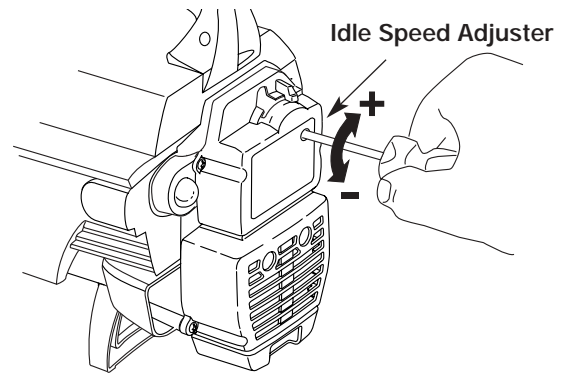

Fig. 27
The idle speed adjuster of the engine is adjustable through the Air filter/muffler cover (Fig 27).
3. Move the throttle control and let the engine idle. If the engine stops, insert a small phillips or flat blade screwdriver into the hole in the air filter/muffler cover (Fig. 27). Turn the idle speed adjuster in, clockwise, 1/8 of a turn at a time (as needed) until the engine idles smoothly.